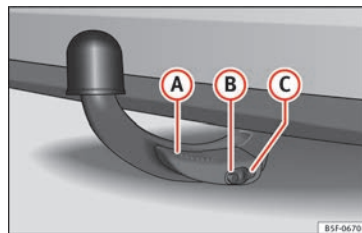

Fig. 232 Detachable ball properly attached
- Lever (A) » Fig. 232 is fully raised.
- The release bolt (B) » Fig. 232 is sticking fully out (the red and green part is visible).
- Cover (C) » Fig. 232 is placed over the lock.